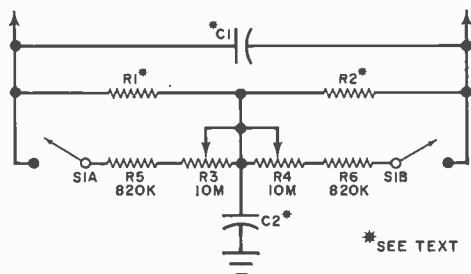

Fig. 1. Modification components to be added to IG-72 circuit are S1 and R3 through R6.
Fig. 1. Operated in avalanche, Q1 serves as pink noise source. To preserve constant-level signal characteristic of pink noise, C2 shunts appropriate levels of high frequencies away from earphone.
**Theory of Circuit Design.** As can be seen from the schematic diagram in Fig. 1, the circuit of the Chatter Jammer is very simple. Transistor Q1 is a silicon type that has a low emitter-to-base breakdown voltage rating. The base-emitter junction is reverse biased by the two series-connected 9-volt batteries that make up B1. In this setup, the base-emitter junction is operated in an avalanche condition.
back circuit as shown in Fig. 1. The multiplier (1, 10, 100 and 1000) is determined by the values of capacitors C1 and C2. The significant figures are selected by the "cycles" switches on the front panel of the instrument. These switches change the resistances of R1 and R2. For the "tens" range, the values of R1 and R2 are determined by parallel-connected resistors, effectively 100,000 ohms per step. The "units" range values are set by 1-megohm parallel-connected resistors, each of which is selected in discrete increments. Hence, a 4700-Hz signal setting would be the equivalent of four 100,000-ohm and seven 1-megohm resistors in parallel, with a multiplier setting of 100.
Now, the modification in the IG-72 allows you to obtain a continuously variable frequency output by adding a variable resistance in parallel with the resistance selected by the "cycles" switches. With the values given in Fig. 1, a range of 10.82 megohms to 820,000 ohms is available. This has the effect of providing a variable third significant figure that is continuously adjustable between 4709 and 4920 Hz.